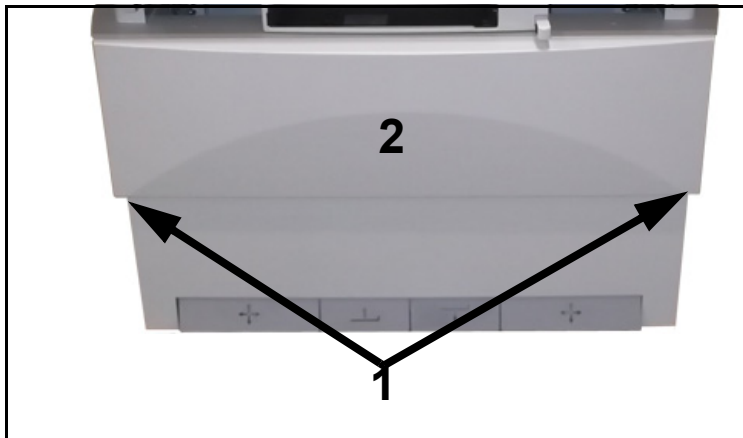

Figure 5-1. Upper Panel Screws
- 3 Unscrew the upper panel screws (1 in Figure 5-1), tilt panel (2) out, and lift off from the table.